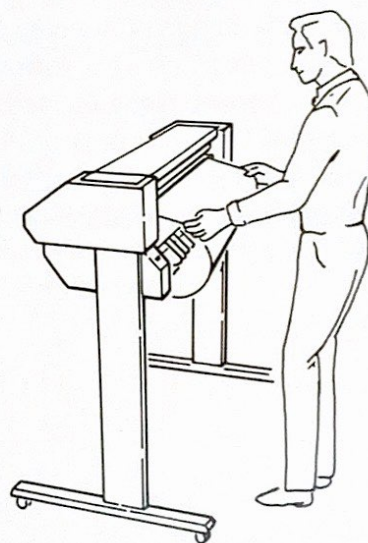

Figure 5-11. Feeding Roll Media from Rear to Front
8. Unroll several feet of media and feed the media toward the front of the plotter and under the raised pinch rollers. See Figure 5-11.